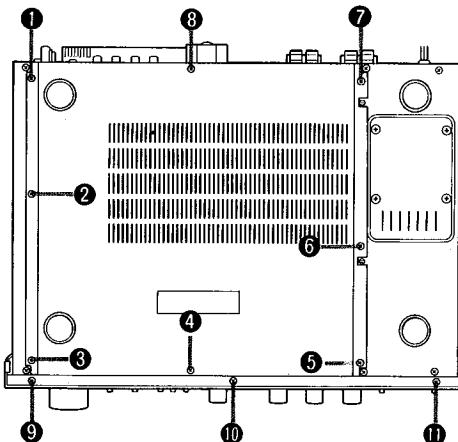
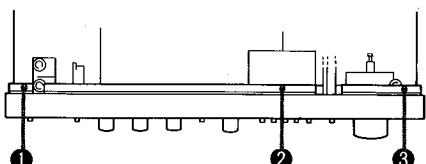
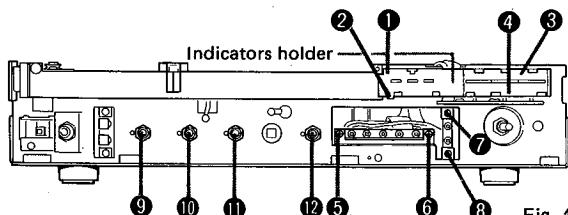

Fig. 2
Fig. 3
Fig. 4
② CABINET BOTTOM REMOVAL
Remove the screws ① to ⑧ in Fig. 2 and then remove the cabinet bottom.
③ FRONT PANEL ASSEMBLY REMOVAL
1. Remove the cabinet top. (Refer to step ①)
3. Remove the screws ⑨ to ⑪ in Fig. 2 and ① to ③ in Fig. 3 and then remove the front panel assembly.
④ INDICATORS HOLDER REMOVAL
1. Remove the front panel assembly. (Refer to step ③)
2. Remove the indicators holder hooks ① to ④ in Fig. 4 and then remove the indicators holder.
⑤ TAPE MONITOR & FUNCTION SELECTOR SWITCHES P.C. BOARD REMOVAL
4. Remove the screws ⑤ and ⑥ in Fig. 4 and then remove the tape monitor & function selector switches P.C. board.
⑥ FM MUTING & AUDIO MODE SWITCHES P.C. BOARD REMOVAL
2. Remove the screws ⑦ and ⑧ in Fig. 4 and then remove the fm muting & audio mode switches P.C. board.
⑦ POWER OUTPUT AND TUNER P.C. BOARDS REMOVAL
1. Remove the cabinet bottom. (Refer to step ②)
2. Remove each indicators of tape monitor, fm tuning and fm/am signal. (Refer to step ④)
3. Remove the tape monitor & function selector switches P.C. board. (Refer to step ⑤)
5. Remove the hexagonal nuts ⑨ to ⑫ in Fig. 4.